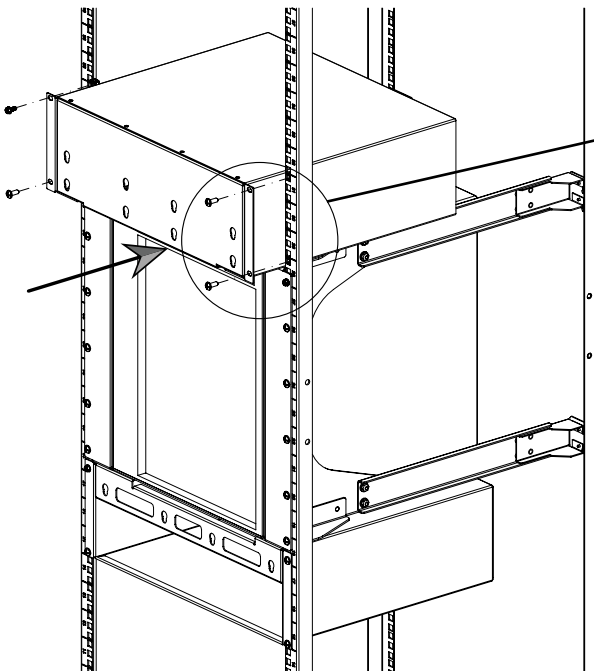

Figure 14
- Exhaust Duct is installed directly above Chassis (Figures 14 & 15).